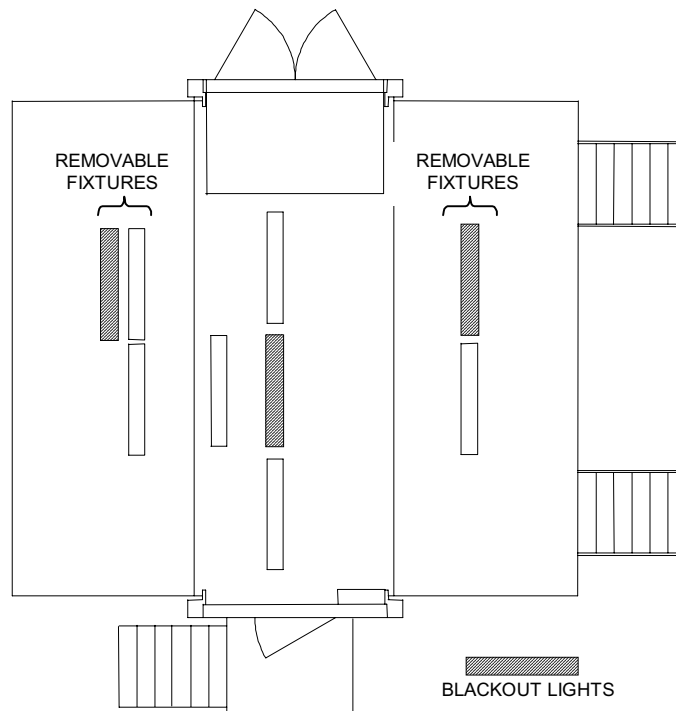

Figure 14. Ceiling Light Fixture Layout.
1. Unpack the removable light fixtures from their storage box and position them as shown in Figure 14. Install the lights by slipping the hooked brackets at the ends of the fixtures between the fabric and the arches. Orient each fixture so the end with the power cord is toward the designated receptacle. Plug the power cords into their marked receptacles on the ceiling raceway.